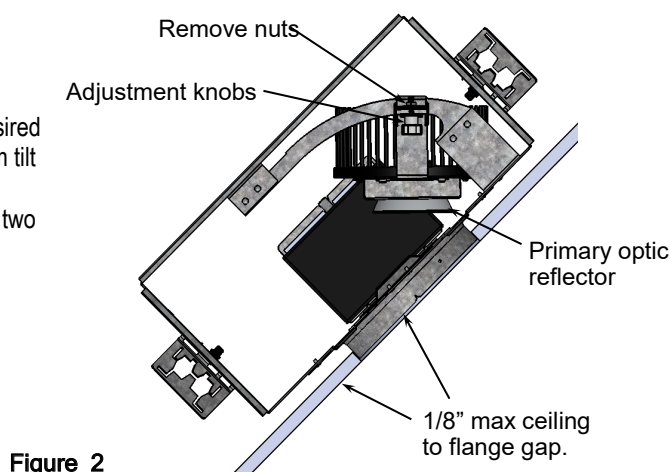

Figure 2
For Proper Adjustability of lamp, the fixture MUST be positioned only as shown in Figure 2.
3. Loosen the bracket wing nuts from the inside of the fixture, and adjust the *hanger bar end brackets*, so that the lower lip of the fixture flange will be **flush, or 1/8" (max)** above the bottom of the ceiling surface. (See Figure 2).
To adjust lamp position, loosen the two adjustment knobs and slide assembly to the desired angle or until the bottom of the primary optic reflector is parallel with the floor. Maximum tilt angle is 45°. (See Figure 2)